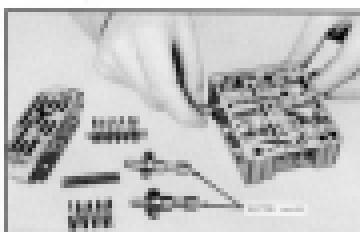

Fig. 411. Removing Shifter Valves.
7. Remove three screws holding regulator plug and casting to inner casting and remove end casting. Hold regulator plug and casting and inner valve body together while removing screws to avoid springs jumping out of place. (Fig. 411)